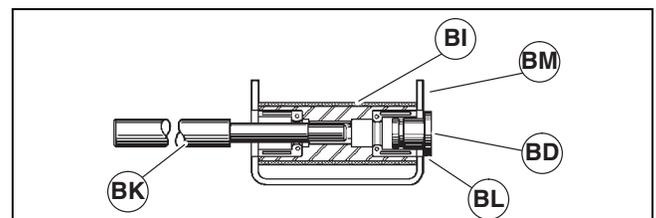

Figure 40
Do not hit retaining sleeve (Figure 40, item BD) with hammer or any other tool when installing. Inspect frame bore for damage or out of roundness if retaining sleeve does not slide easily into place. Frames with worn holes should be replaced.
4. Insert retaining sleeve (Figure 40, item BD) into pulley (BI). Push in until inside surface of retaining sleeve (BL) shoulder touches outside of frame (BM). Do not push shoulder of retaining sleeve into frame opening.